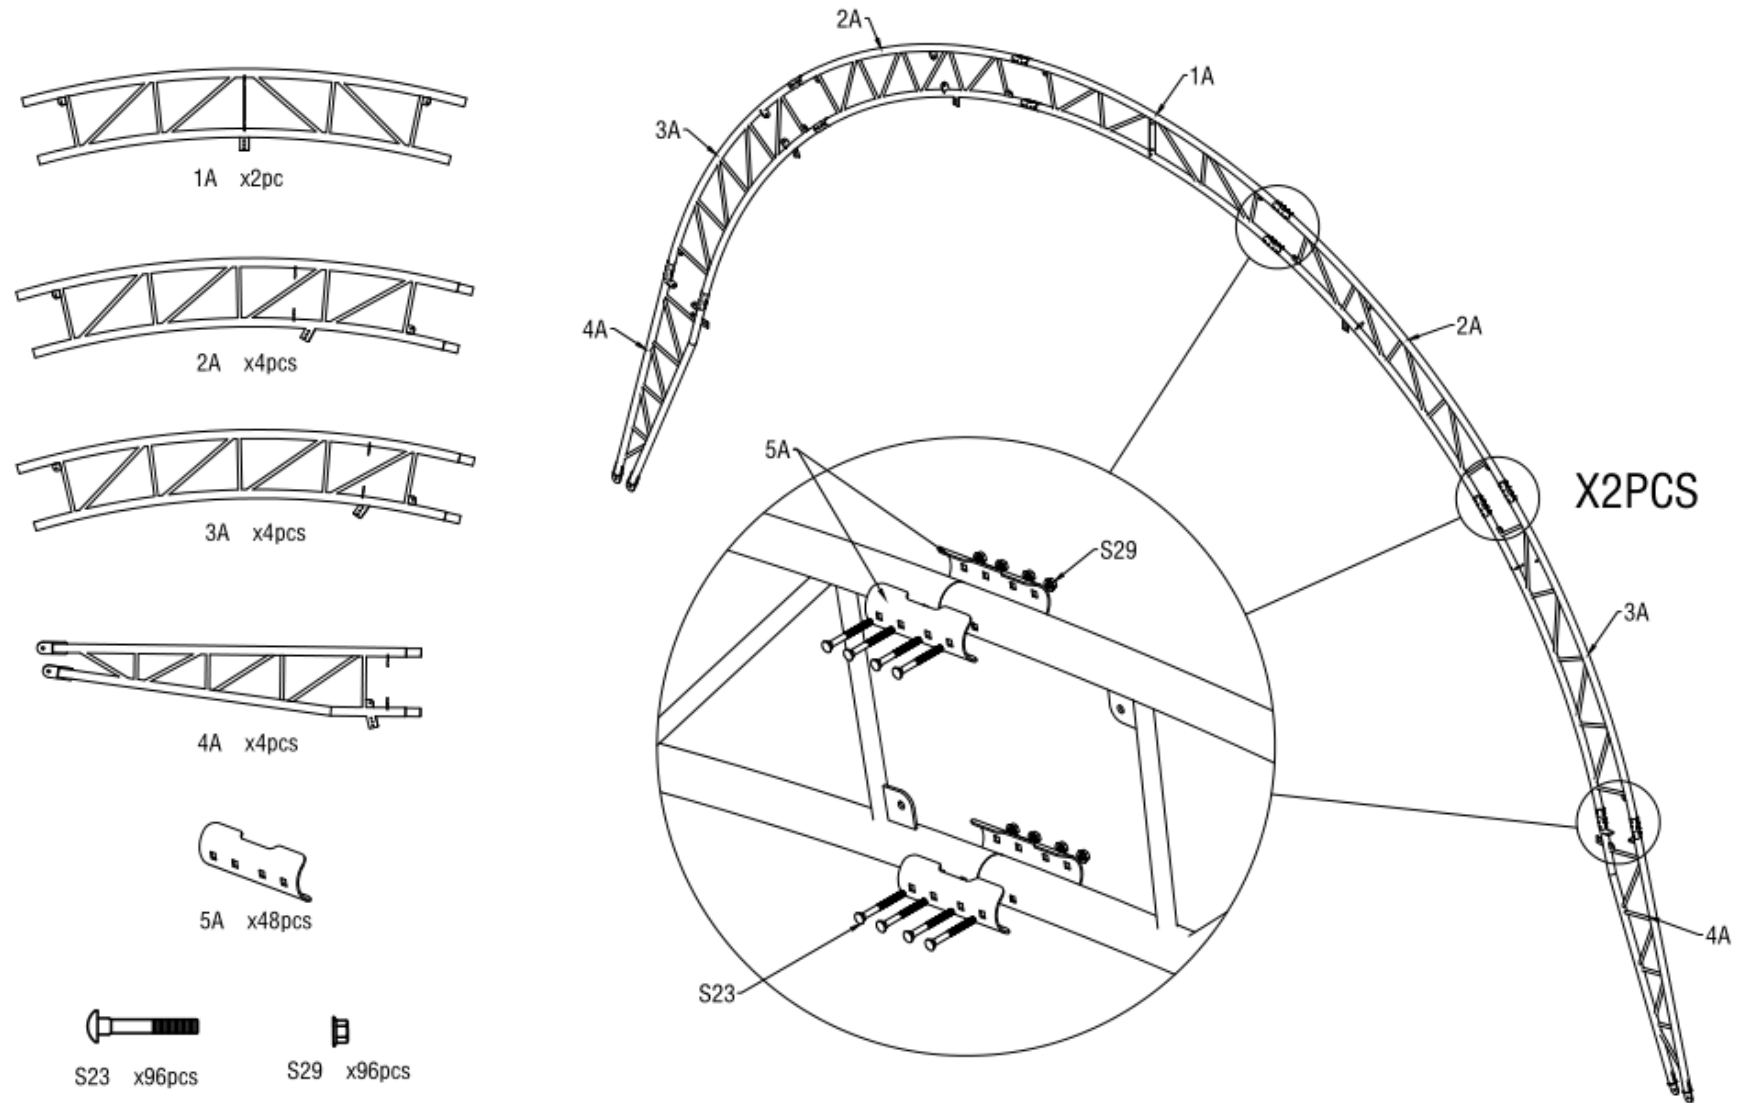

Figure 3
1. As Figure 3 shown to find one Top roof tube in the front and back door (No.1A), two Roof upper curving tube in the front and back door(No. 2A), two Roof middle curving tube in the front and back door (No. 3A) ,two Lower curving tube in front and back door(4A) and assemble the first group and final group of arch with Screw M8x80 (No.S23). **DO NOT install the screw on the top of the truss where the fabric will rest.**